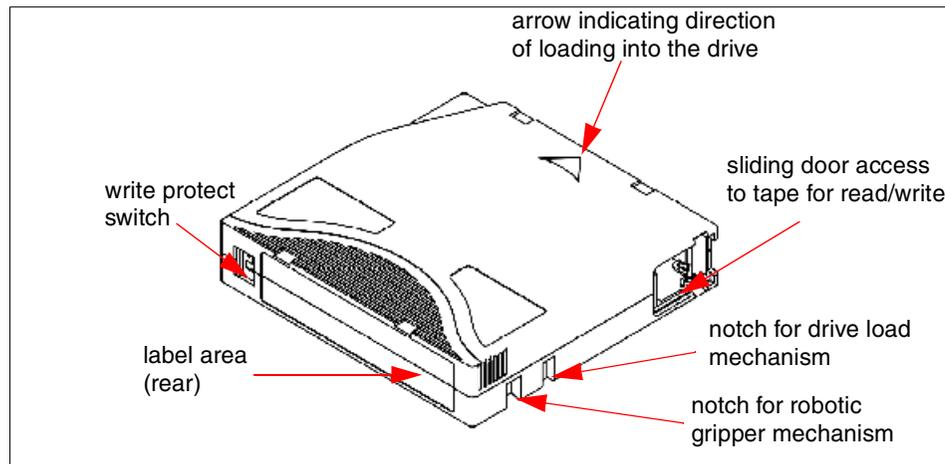
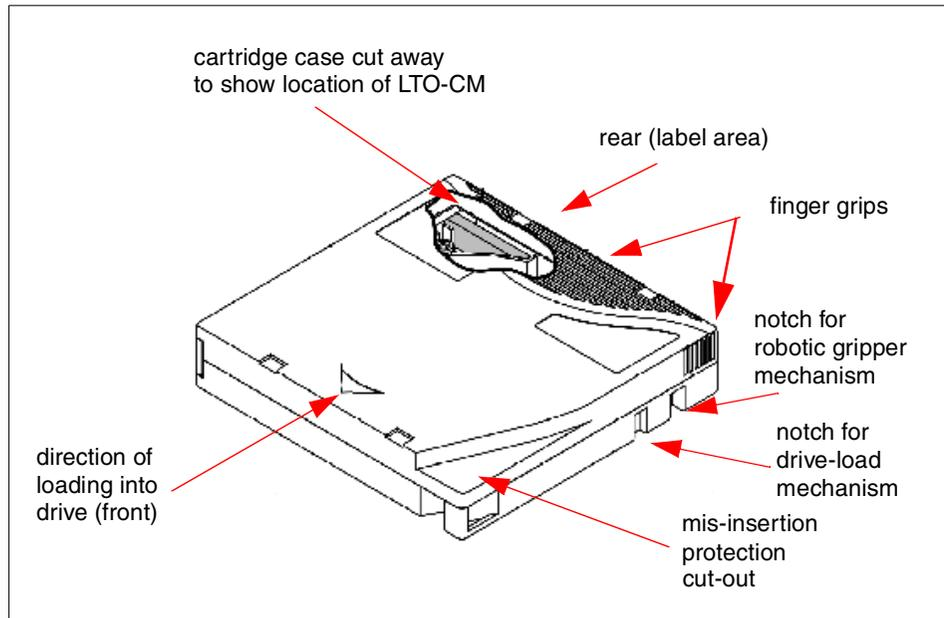
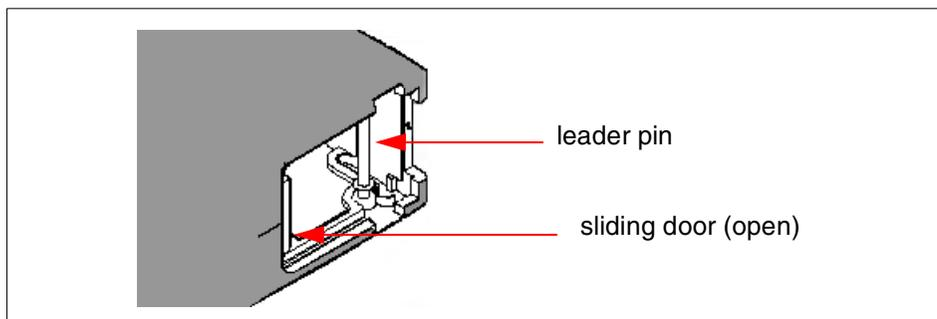

Figure 2-7 Ultrium cartridge view from top and rear
Figure 2-8 Ultrium cartridge view from top and front
Figure 2-9 Leader pin attached to the tape medium
Two views of the tape cartridge are shown in Figure 2-7 and Figure 2-8 on page 19.
Figure 2-8 on page 19 shows some of the components of the cartridge.
- ▶ Sliding door: Cartridge door (shown in Figure 2-7 on page 18) that protects the tape from contamination whenever the cartridge is out of the drive. Behind the door, the tape is threaded onto a leader pin (shown in detail in Figure 2-9 on page 20), which is used to pull the tape from the cartridge for use. A locking mechanism prevents the media from unwinding when the cartridge is not located in the drive.
Information about the cartridge and the tape is written to the LTO-CM, which is a serial EEPROM with both read-only and rewriteable areas. It is housed inside the cartridge casing at the left rear (label side) corner as illustrated in Figure 2-8 on page 19, which shows the interior of the cartridge casing.
Tape cartridges are often supplied with the labels already attached, or you can attach a label yourself. Operators must handle the cartridges and barcode labels in accordance with the instructions in the operator guides supplied with the products. You must ensure that labels are removed cleanly, reapplied carefully, in good condition, and not obscured or damaged. The Ultrium cartridge features a recessed area for the label (see Figure 2-7 on page 18). The label must be applied only in the recessed label area; if it extends outside of the area it can cause loading problems in the drive.
The write protect switch is located at the front of the cartridge to the left of the bar code label (see Figure 2-7 on page 18). The position of the write-protect switch on the tape cartridge determines whether you can write to the tape; you cannot write to the tape when the switch is pushed to the right. When the write protect switch is set to inhibit writing, a visual lock mark such as a padlock will be visible.